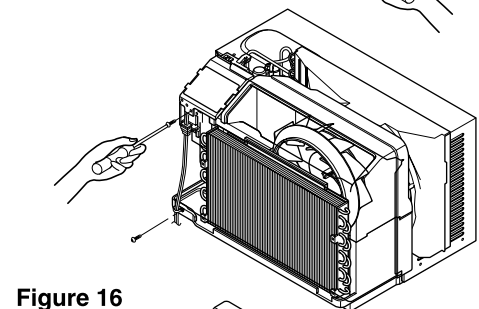

Figure 16
4. Remove 2 screws that secure the control panel to control box and base pan. (See Figure 16)